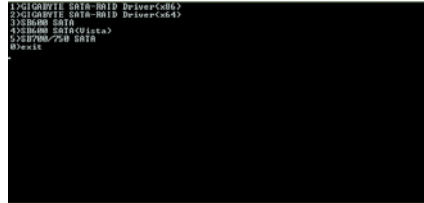

Figure 2
Step 2: When the controller menu (Figure 2) appears, remove the startup disk and insert the blank formatted disk. Select the controller driver by pressing the corresponding letter from the menu. For example, from the menu in Figure 2, to install Windows XP to your RAID/AHCI hard drives, select **(5) SB700/750 SATA** for the AMD SB700 SATA controller. Your system will then automatically zip and transfer this driver file to the floppy disk. Press <0> to exit when finished.
Use an alternative system and insert the motherboard driver disk. From your optical drive folder, double click the **MENU.exe** file in the **BootDrv** folder (Figure 3). A command prompt window will open similar to that in Figure 2.